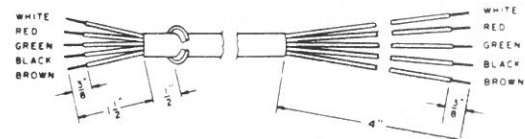
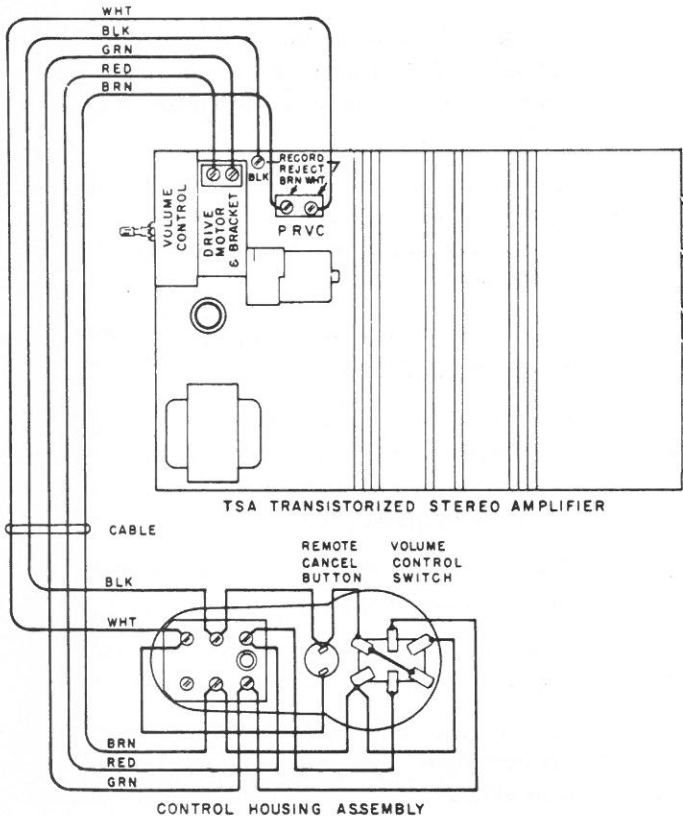

Figure 2. Cable Preparation.
Figure 4. Wiring Diagram.
6. Strip and trim phonograph end of 5-wire cable as shown in Figure 2. Connect cable to drive motor, ground screw, and to the 2-screw terminal board on the amplifier, see Figure 4.
11. Lift out the Terminal Panel in the PRVC3 and connect the 5-wire cable to the screw terminals, Figures 4 and 5. Exercise caution so as not to crack panel.